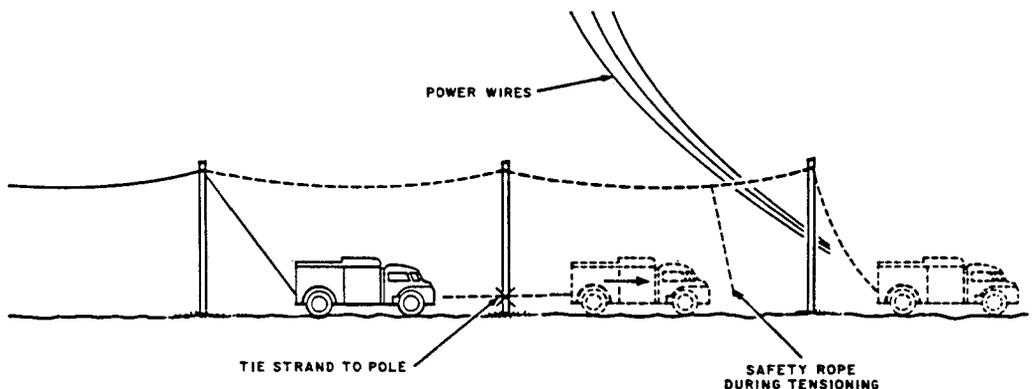

Fig. 5 — Placing Strand at Power Crossing
4.14 At power crossings, place the strand along the ground tying it securely to the butt of the first crossing pole to prevent the strand from flipping up while making the crossing past the first pole beyond the crossing, as shown in Fig. 5.